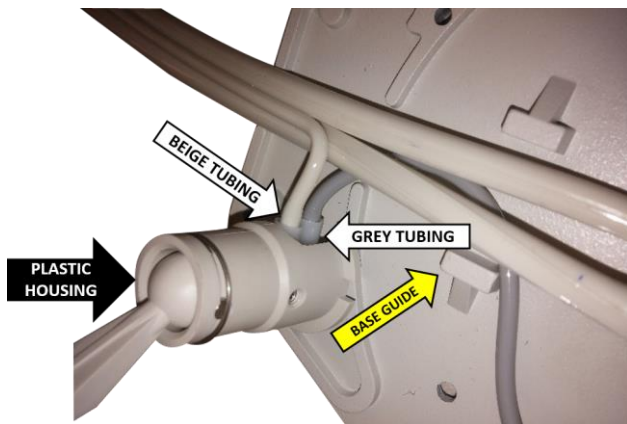
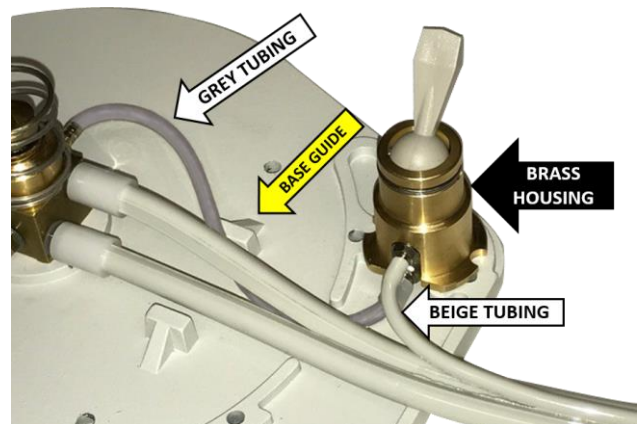

Fig. 2a
Fig. 2b
- Remove toggle housing from base of pedal. Remove the 1/8" beige foot control tubing on the top barb of the toggle housing. Then remove the 1/8" grey tubing from the block. (Fig. 2a or Fig. 2b)
NOTE: Toggle housing may be plastic (Fig. 2a) or brass (Fig. 2b).
- Replace with new foot control toggle assembly. Be sure tubing is secure to barbs and grey tubing is within base guides so that it is not pinched or kinked during reassembly (see Fig. 2a/2b).